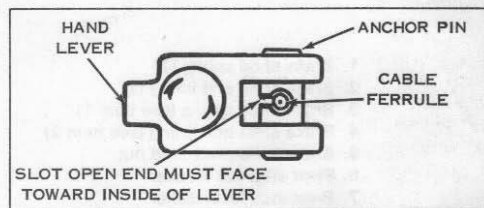

Figure 2-58. Correct Handlebar Control Cable Assembly
If the front wheel brake cable is not free in its housing, is frayed or broken, replace cable. Remove clevis clamp nut and clamp. Free cable from clevis and pull from upper end of coil. Install new cable from upper end of housing as positioned on motorcycle, applying a light coat of grease as it is inserted into coil. When reassembling cable ferrule in hand lever anchor pin with side slot, be sure slot is toward inside as shown in Figure 2-58.
Position unit on pivot stud (8) and cam lever (18). Insert lower spring (1). Spring hooks must be in shoe spacer notch nearest side cover. When reassembling cable ferrule in hand lever anchor pin with side slot, be sure slot is toward inside as shown in Figure 2-58. Earlier type pin with slotted end should have open end facing downward.